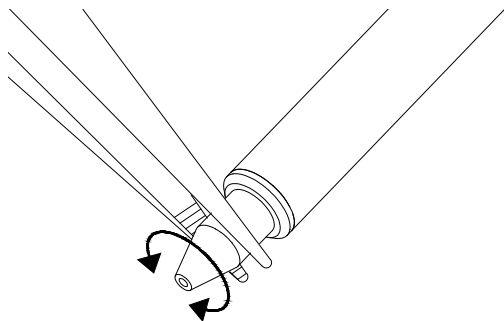

Fig. 6
1. Unscrew the tip in a anti clockwise movement.(Fig. 6)
3. Tighten the tip securely with a clockwise movement. (Fig. 6)
3. Make sure De-Soldering Iron tip is fixed in position and secure. (Fig. 6 & 7)